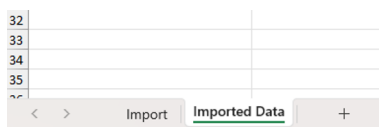

Figure 4. Analysis results are stored in the “Imported Data” tab.
The calculated median fragmented sizes can be observed in the new sheet tab named “Imported Data”(Figure 4). The calculated fragment size and its confidence interval (CI) value are added to the last column of the Excel sheet (Figure 5).